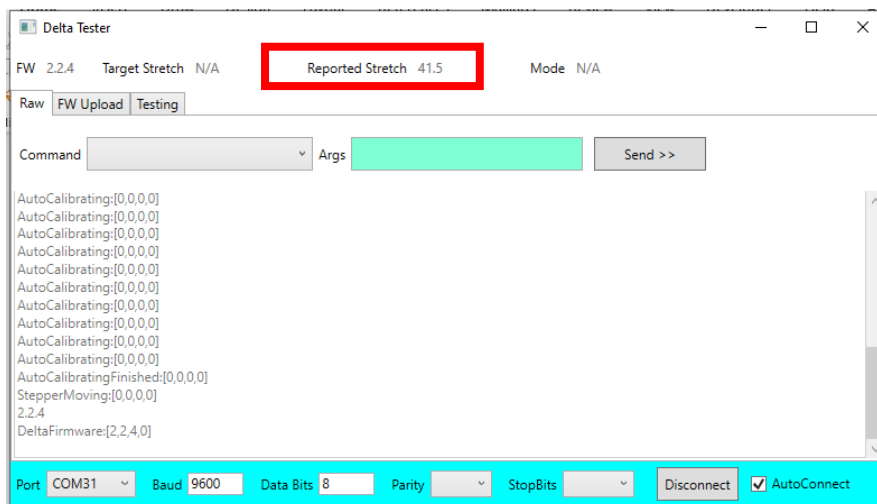

Figure 3: Reported Stretch value indicated on the Delta Tester.
4. Ensure the instrument has finished calibrating before you upload the new firmware. This is indicated by a value being present in the 'Reported Stretch' section indicated in figure 3.